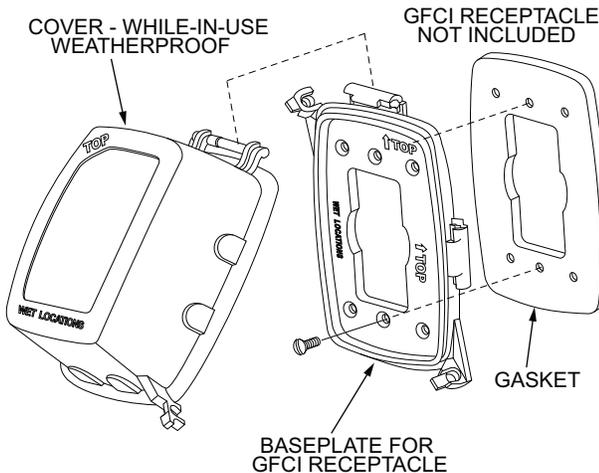

Fig. 49 — Weatherproof Cover Installation
4. Mount the weatherproof cover to the backing plate as shown in Fig. 49.